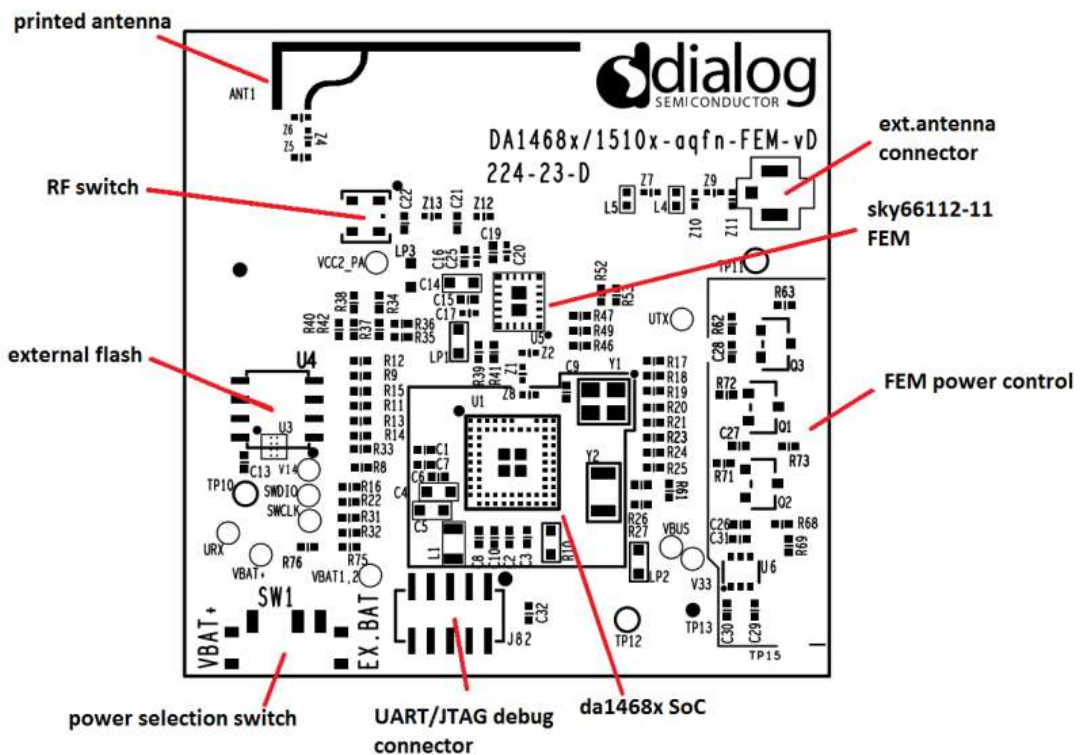

Figure 4: Layout of the Range Extender Daughterboard
- Complies to Bluetooth v4.2, ETSI EN 300 328 and EN 300 440 Class 2 (Europe), FCC CFR47 Part 15 (US) and ARIB STD-T66 (Japan)
- On-board printed inverted F-type antenna (Figure 4)
- uFL connector for external antennas (Figure 4)
- RF connector for conducted measurements (Figure 4)
The system is powered via the Debug USB port (USB2). The daughterboard can also be independently programmed using an external battery connected to the on board Li-Poly battery connector (see section 5 for more details). The layout and main features of the daughterboard are shown in Figure 4.